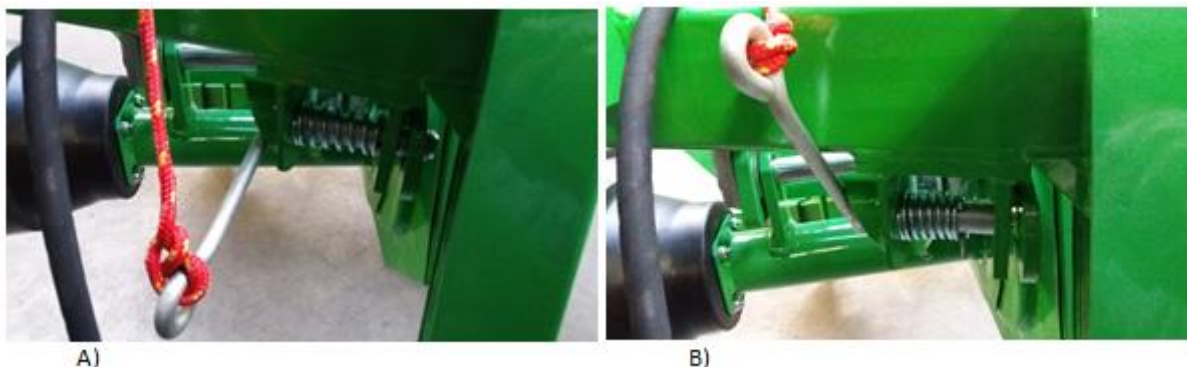

Figure 12 Suspension frame locking pin: (A) inside the clevis hole (B) removed from the clevis hole
6. Bring the cylinder to transportation position, until the cylinder lock gets triggered (Fig. 13A). Transportation position is shown in the Figure 12.